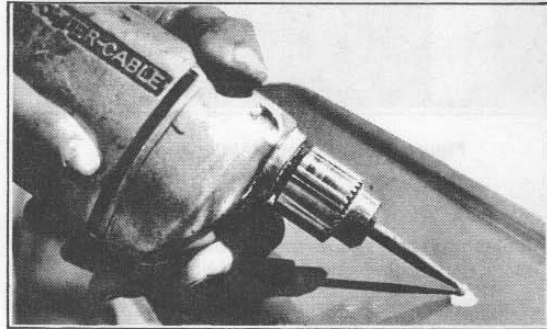

Figure 2-74. Roughing Damaged Area
2. Roughen the bottom and sides of the damaged area, using a power drill with a burr attachment. Feather the edge surrounding the scratch or gouge, being careful not to undercut this edge. See Figure 2-74.